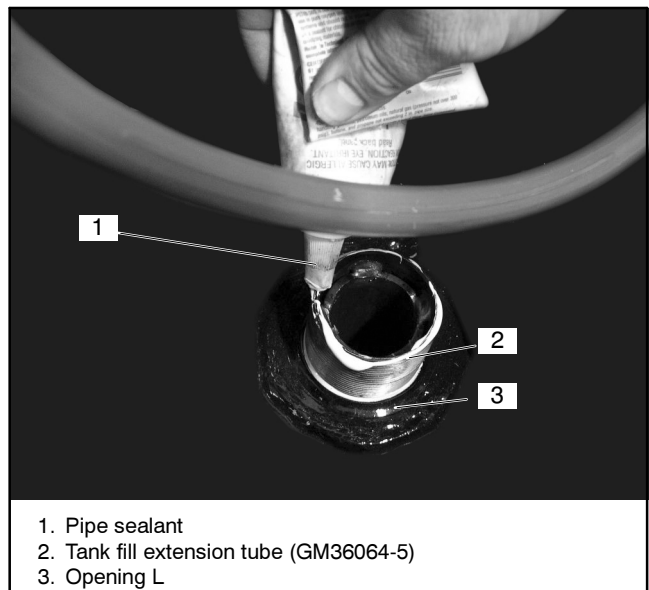

Figure 6 Apply Pipe Sealant to Top of Threads
- 2.1.3 Apply pipe sealant to top threads on tank fill extension tube GM36064-5. See Figure 6.